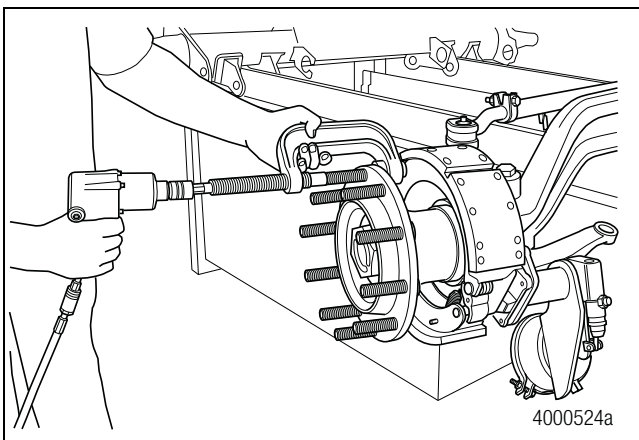

Figure 6.50
6. Use a 1/2-inch (12.7 mm) drive impact wrench and a ball joint removal kit to remove the studs. Figure 6.50.